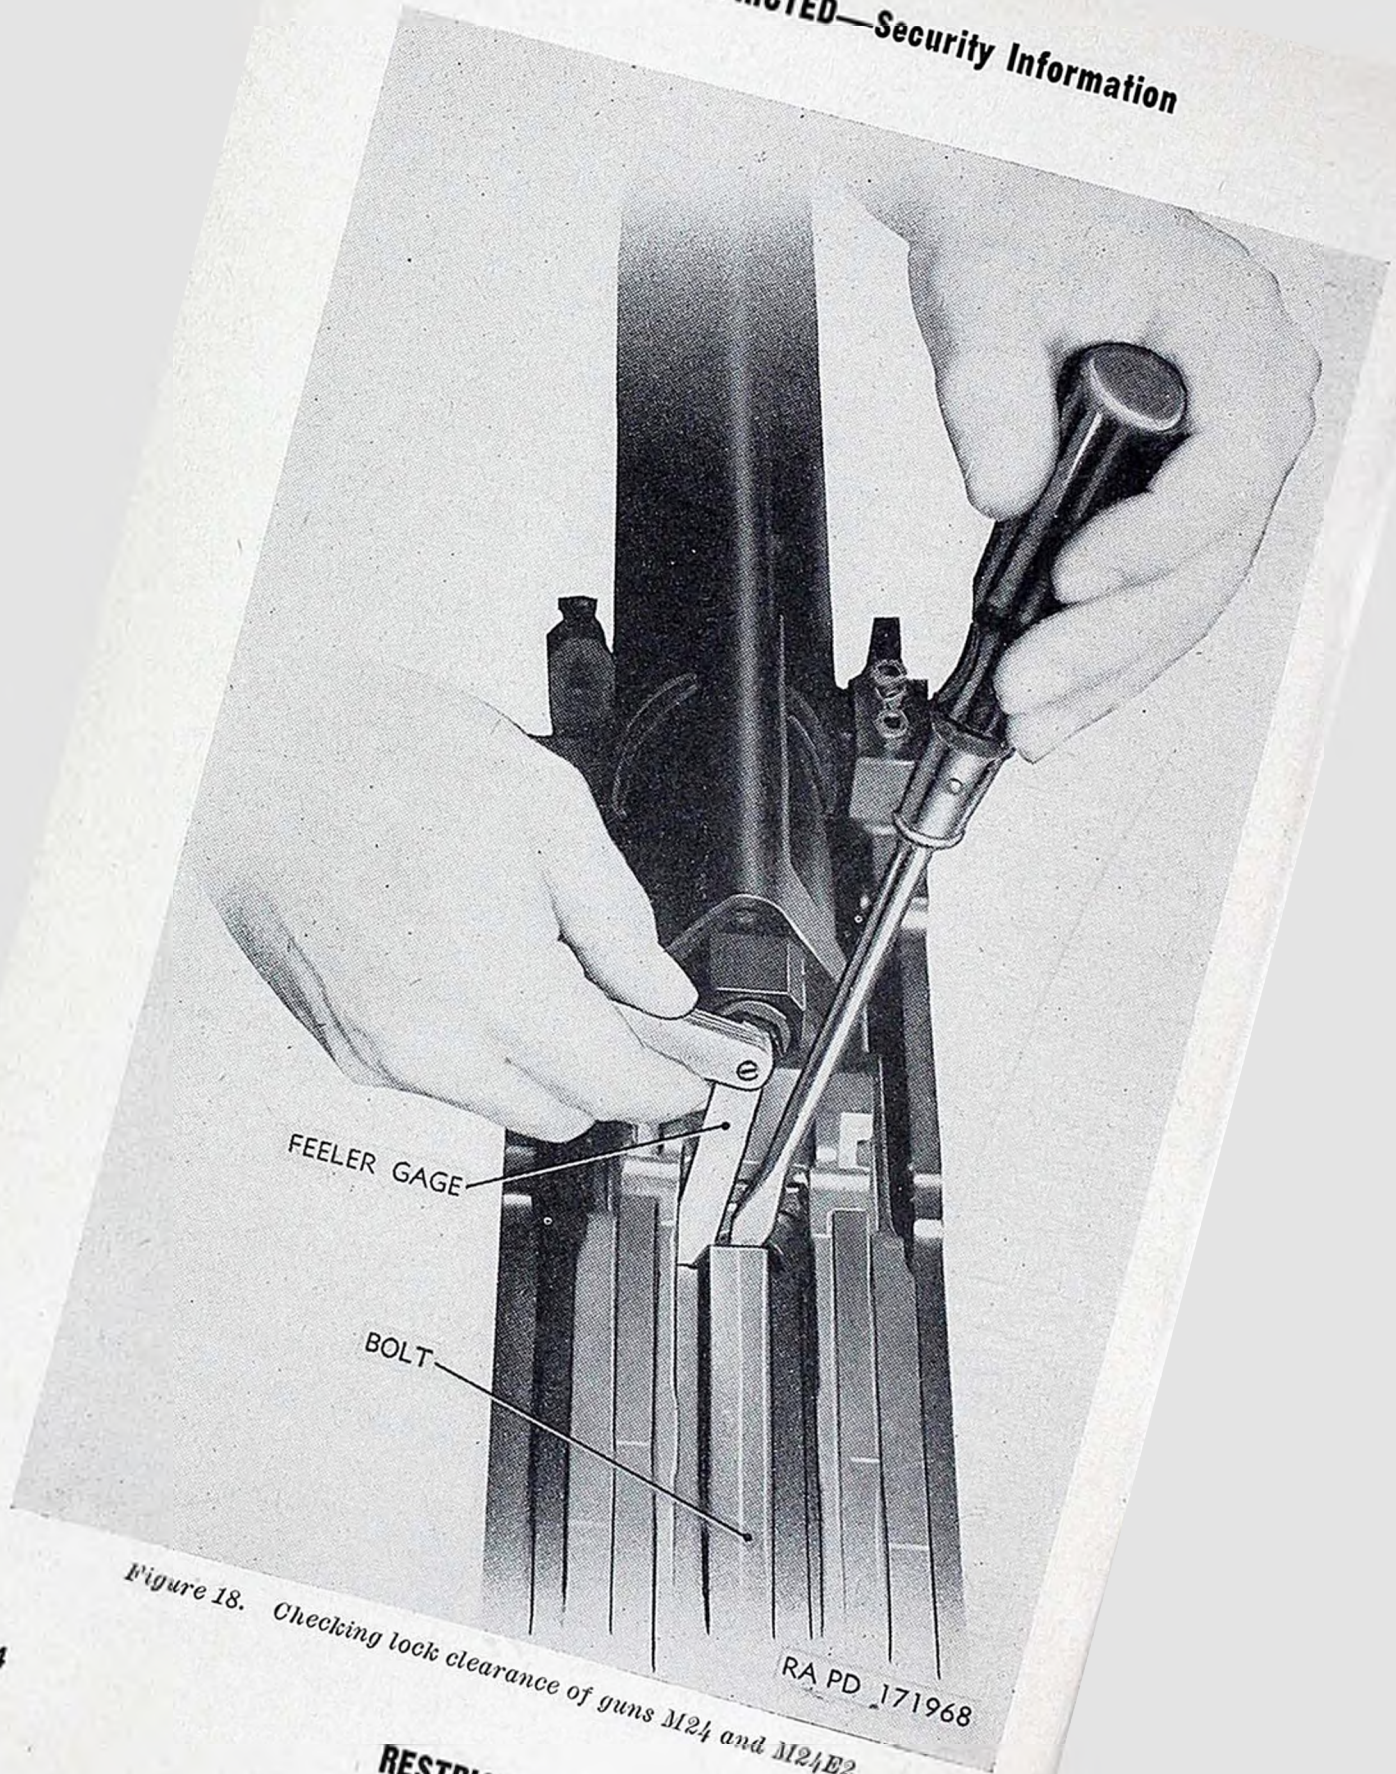

Figure 18. Checking lock clearance of guns M24 and M24E2.
c. Force the breechblock rearward by inserting a large screwdriver between the rear face of the tube and the shallow recess in the face of the bolt assembly (fig. 18).
d. Use a feeler gage (fig. 18) to accurately measure the distance between the right-hand and left-hand bottom areas of the breechblock and the receiver surface. Do not measure the distance between the breechblock and the rear face of the tube. The average of the right-hand and the left-hand measurements should be 0.015 inch or less. If the average of the two is greater, notify field maintenance personnel. The feeler gage should be inserted with firm rather than light pressure in order to obtain a true reading. However, the pressure applied to the feeler leaves should not produce distortion or scoring of the leaves.
c. Force the breechblock rearward by inserting a large screw driver between the rear face of the tube and the shallow recess in the face of the bolt assembly (fig. 18).